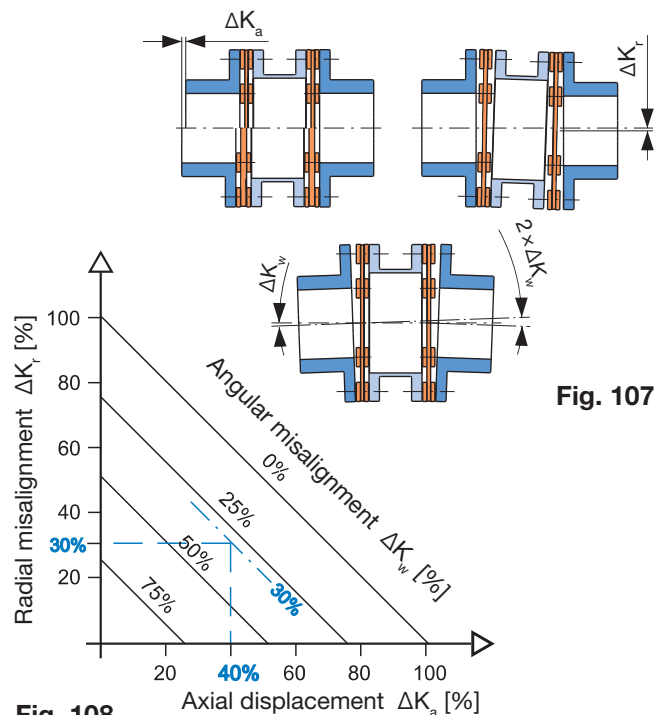

Fig. 107
- ROBA®-DS double-jointed couplings (Type 951._ _ _ and Type 953._ _ _) compensate for angular, axial and radial shaft misalignments (Fig. 107).